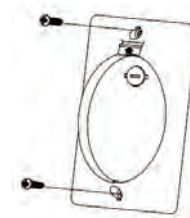

Fig. 26
Step 1. Select a location to install your handset control holder, install the holder as shown. (Fig. 26)